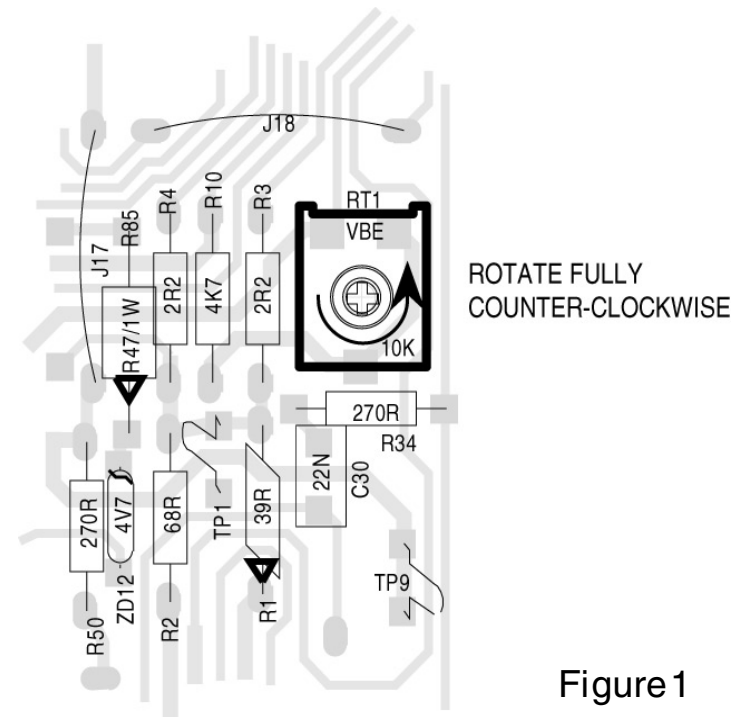

Figure 1
- STEP 4.** Rotate the trim pot RT1 fully counter - clockwise as in figure 1. Inspect and replace any resistors that look burnt. Measure all of the resistor values coloured YELLOW on the assembly drawing. The value that you measure may not be exactly what is shown on the assembly drawing but if the resistor doesn't look damaged it should measure within + or - 5% of the printed value.